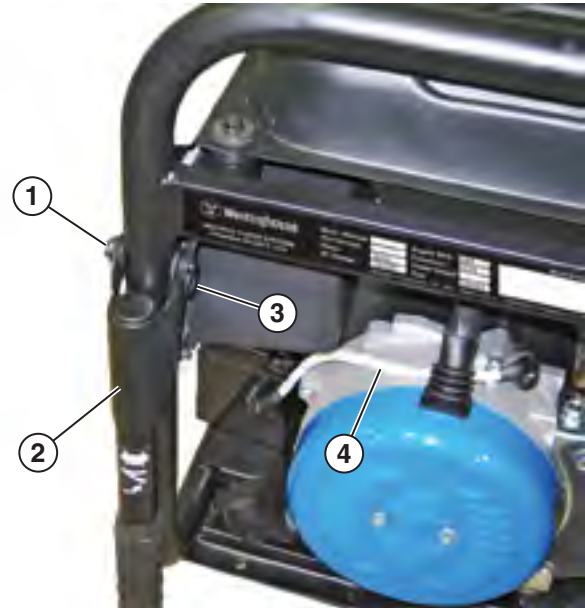

Figure 7 – Attaching the Handles
6. Install the handles using the clevis pin and hairpin cotter as shown in Figure 7.